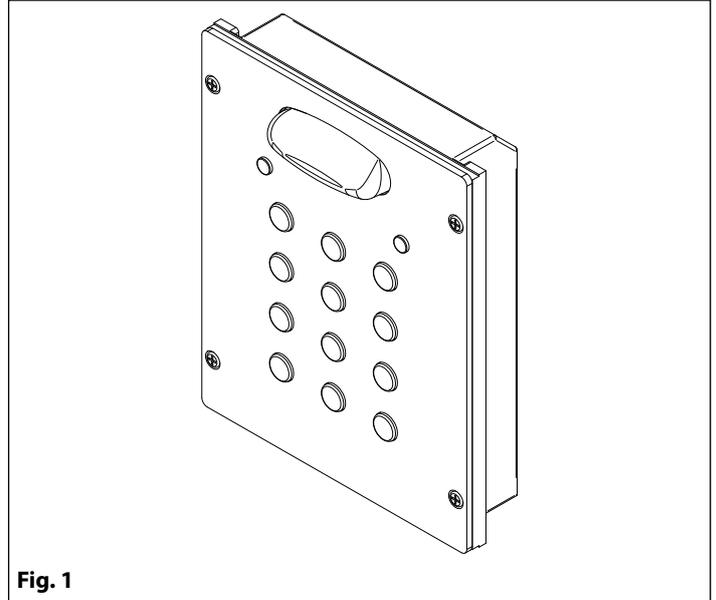

Fig. 1
1. Mount back box **S (Fig. 2)** at 165 cm from ground level (**Fig. 1**);
Fix the surface box on the wall at a distance of 165 cm between the top of the box and the ground (**Fig. 1**).